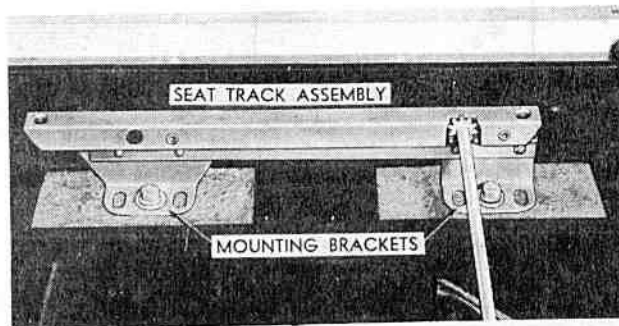

FIG. 33
**CHAMPION AND COMMANDER** Four cap screws fasten the seat track directly to the chassis frame. Three holes are provided in each seat track mounting bracket. In production the mounting cap screws are inserted through the center holes. If this factory setting is not satisfactory, the seat track assembly may be moved forward or backward as required (see Fig. 33).